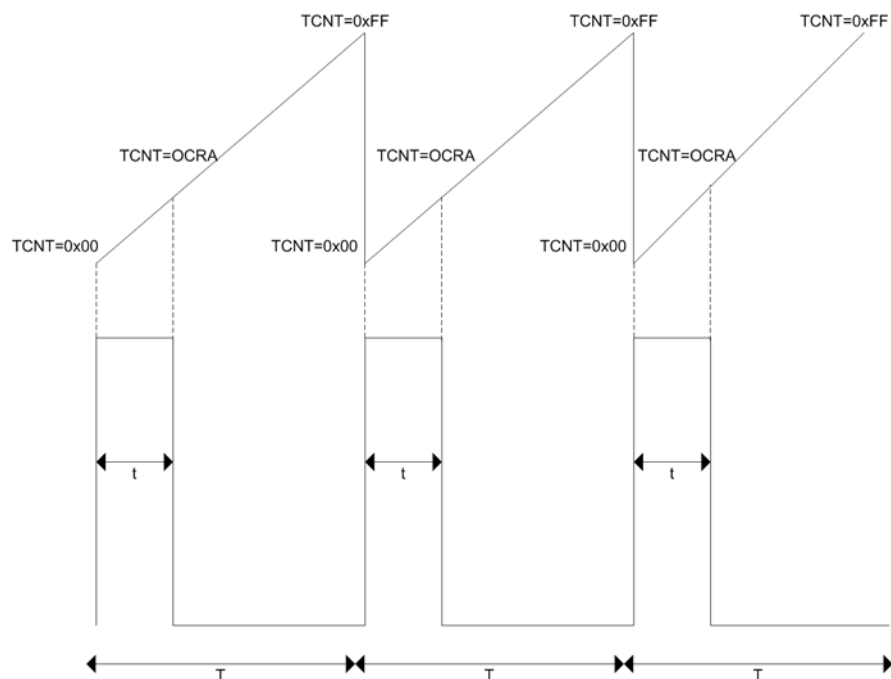

Figure 5. The value of the timer TCNT (top) in comparison to the PWM output (bottom)
STEP 1. Set the timer to Fast PWM mode with the TOP equal to the maximum value of the 8 bit register that is possible. The output compare register A (OCRA) should be updated at TOP, and the timer overflow (TOV) flag should be set on MAX (see page 113 and onward). Fig. 5 illustrates the output of the PWM in comparison to the timer value stored in TCNT. Note, the 3 bits required to set the values of WGM are broken up and spread over two registers Timer Control Register 0 A and Timer Control Register 0 B. This is not nice, but this is the way the manufacturer decided to do this.
STEP 4. Set the Clock Select bits (clock prescaler) in the Timer/Counter Control Register B (pg 113 and onward) to a reasonable value for the period of the PWM (T) signal for now, and experiment by changing this value later. Note, the ranges of PWM that the Pololu motor driver can accept is up to 20 kHz
STEP 5. Set the value of the Output Compare Register A (OCRA) to the value you want the PWM signal to be reset at (sets the duty cycle of the PWM signal – See Fig. 5).